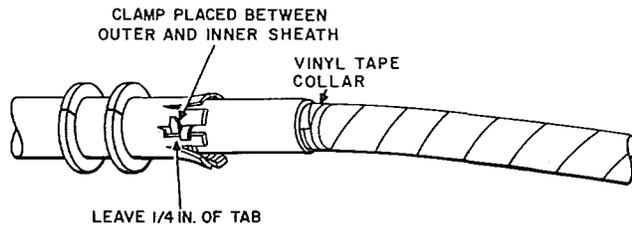

Fig. 10—Inner Sheath Clamp Placed
3.12 Slip the inner sheath clamp under the tabs with the ears extending from the slot from which the half tab was removed (Fig. 10). If a small cable is to be installed in the splice case, an inner sheath clamp of the proper size will be furnished with the adapter assembly (Fig. 3).